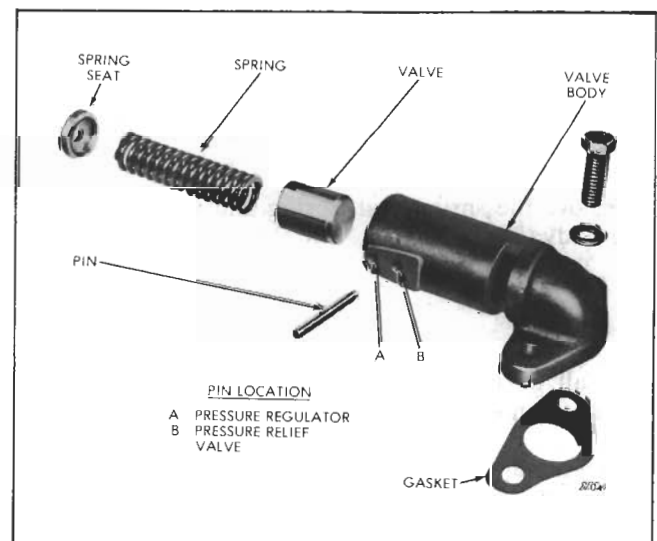

Fig. 2 - Oil Pressure Regulator Valve and Relief Valve Details and Relative Location of Parts (6V or 8V Engine Oil Pump in Front Cover)
The oil pressure regulator consists of a valve body, a hollow piston-type valve, a spring, a spring seat and a pin to retain the valve assembly within the valve body (Fig. 2).
After the parts have been cleaned and inspected, refer to Fig. 2 and assemble the regulator as follows:
**CAUTION:** The valve body used on the 6V and 8V engines (with an oil pump in the front cover) has two retaining pin holes (Fig. 2). Install the pin in the outermost hole for the regulator valve. The inner hole is used when the valve is assembled as an oil pump relief valve assembly. It is important that the retaining pin be positioned correctly so the proper valve opening pressure will be obtained.